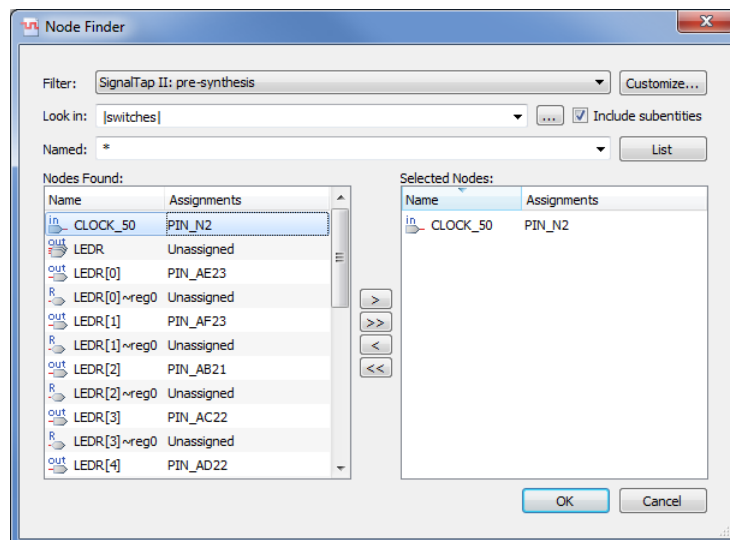

Figure 9. Setting **CLOCK\_50** as the clock for the SignalTap instance on a DE-series board.
- Before the SignalTap analyzer can work, we need to specify what clock is going to run the SignalTap module that will be instantiated within our design. To do this, in the Clock box of the Signal Configuration pane of the SignalTap window, click ..., which will again bring up the Node Finder window. Select List to display all the nodes that can be added as the clock, and then double-click **CLOCK\_50**, which results in the image shown in Figure 9. Click OK.